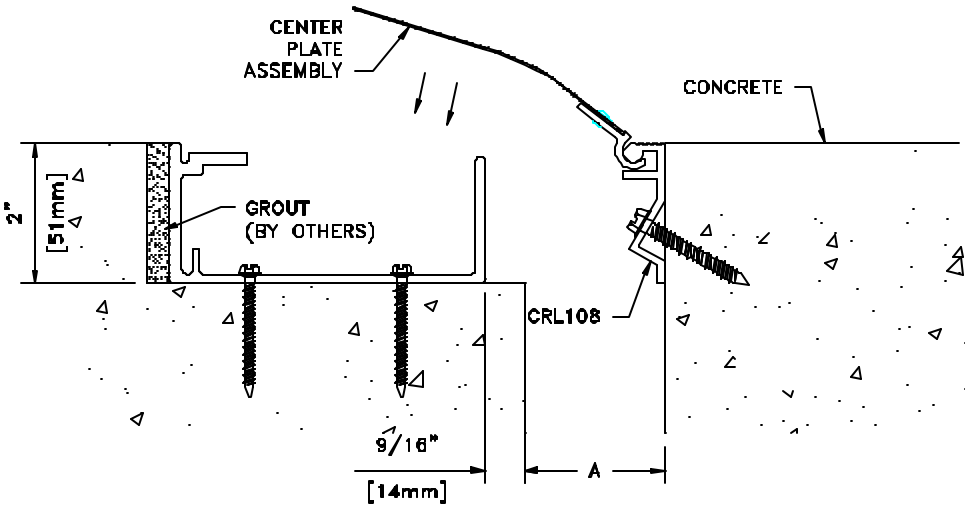

Figure 14
- STEP 23.** Place the Center Plate Assembly into its installed position so that its hook aligns with the channel in the Center Plate Support (see Figure 14), and rotate the Center Plate downward so that it hooks into the Support and rests on the Subchannel Assembly Base Member.